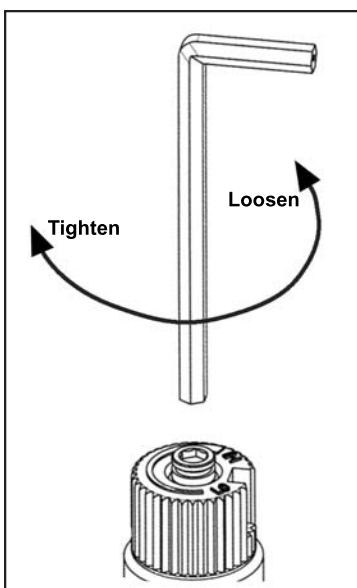

Figure 11: Removing valve screw.
- b) Insert a 5/32" or 4 mm Allen wrench into the hexagonal key-way of the screw (see Figure 11), rotate it counter-clockwise until it is free and extract it.
- e) Using the Allen wrench as shown in Figure 11, rotate the screw clockwise until a torque of 9 inch lbs. **WARNING!** Do not over tighten the screw. It is recommended that you grip the wrench by the short side.